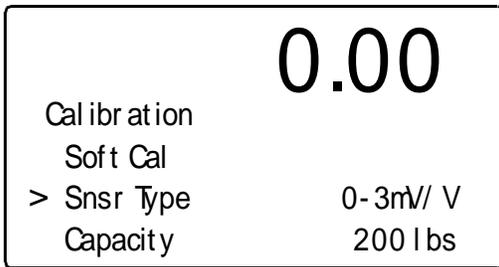

FIG. 2-34 CALIBRATION/SELECTING SENSOR TYPE
- Step 3. Press the Enter button. The Calibration Menu appears with the cursor next to Snsr Type. (See Fig. 2-34)